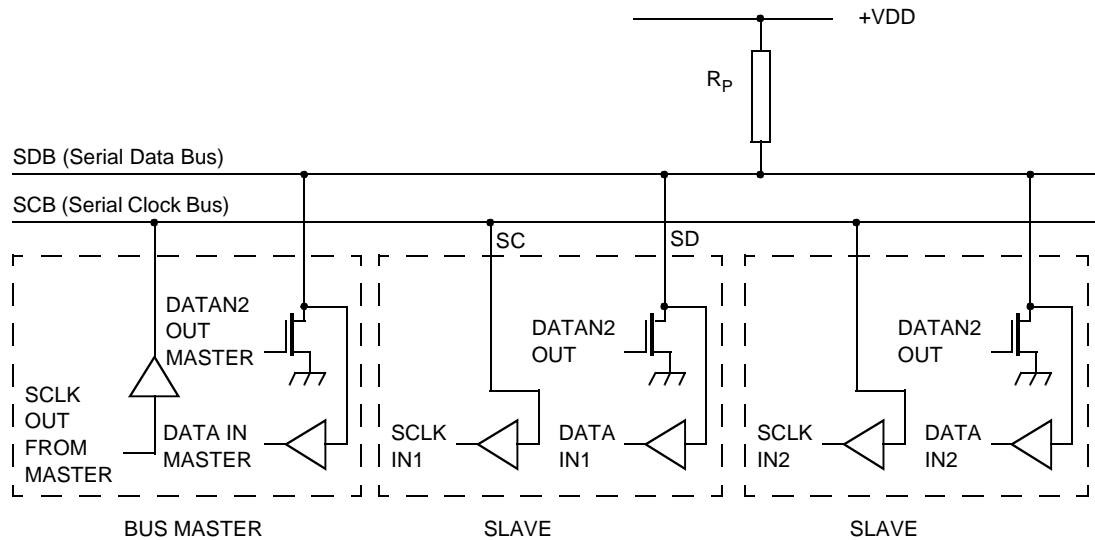

Figure 19: Connection of Devices to the Bus
The CH7004 contains a standard I²C control port, through which the control registers can be written and read. This port is comprised of a two-wire serial interface, pins SD (bi-directional) and SC, which can be connected directly to the SDB and SCB buses as shown in **Figure 19**.
The Serial Clock line (SC) is input only and is driven by the output buffer of the master device (also shown in **Figure 19**). The CH7004 acts as a slave, and generation of clock signals on the bus is always the responsibility of the master device. When the bus is free, both lines are HIGH. The output stages of devices connected to the bus must have an open-drain or open-collector to perform the wired-AND function. Data on the bus can be transferred up to 400 kbit/s.
The electrical specifications of the bus devices' inputs and outputs and the characteristics of the bus lines connected to them are shown in **Figure 19**. A pull-up resistor (R_p) must be connected to a $5V \pm 10\%$ supply. The CH7004 is a device with input levels related to VDD.